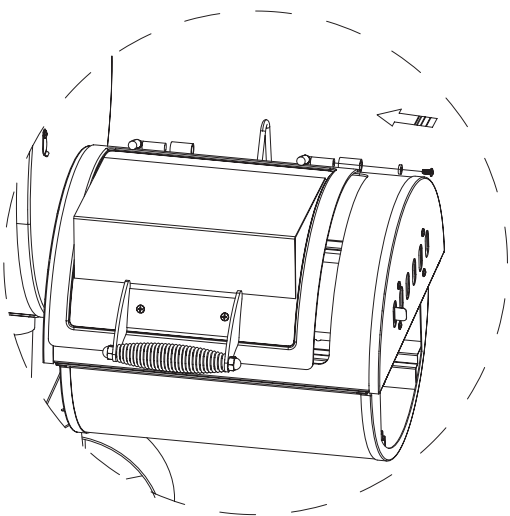

fig. 21
- Fit firebox door assembly onto the firebox unit and secure with the hinge locking screw fig. 21 (supplied).